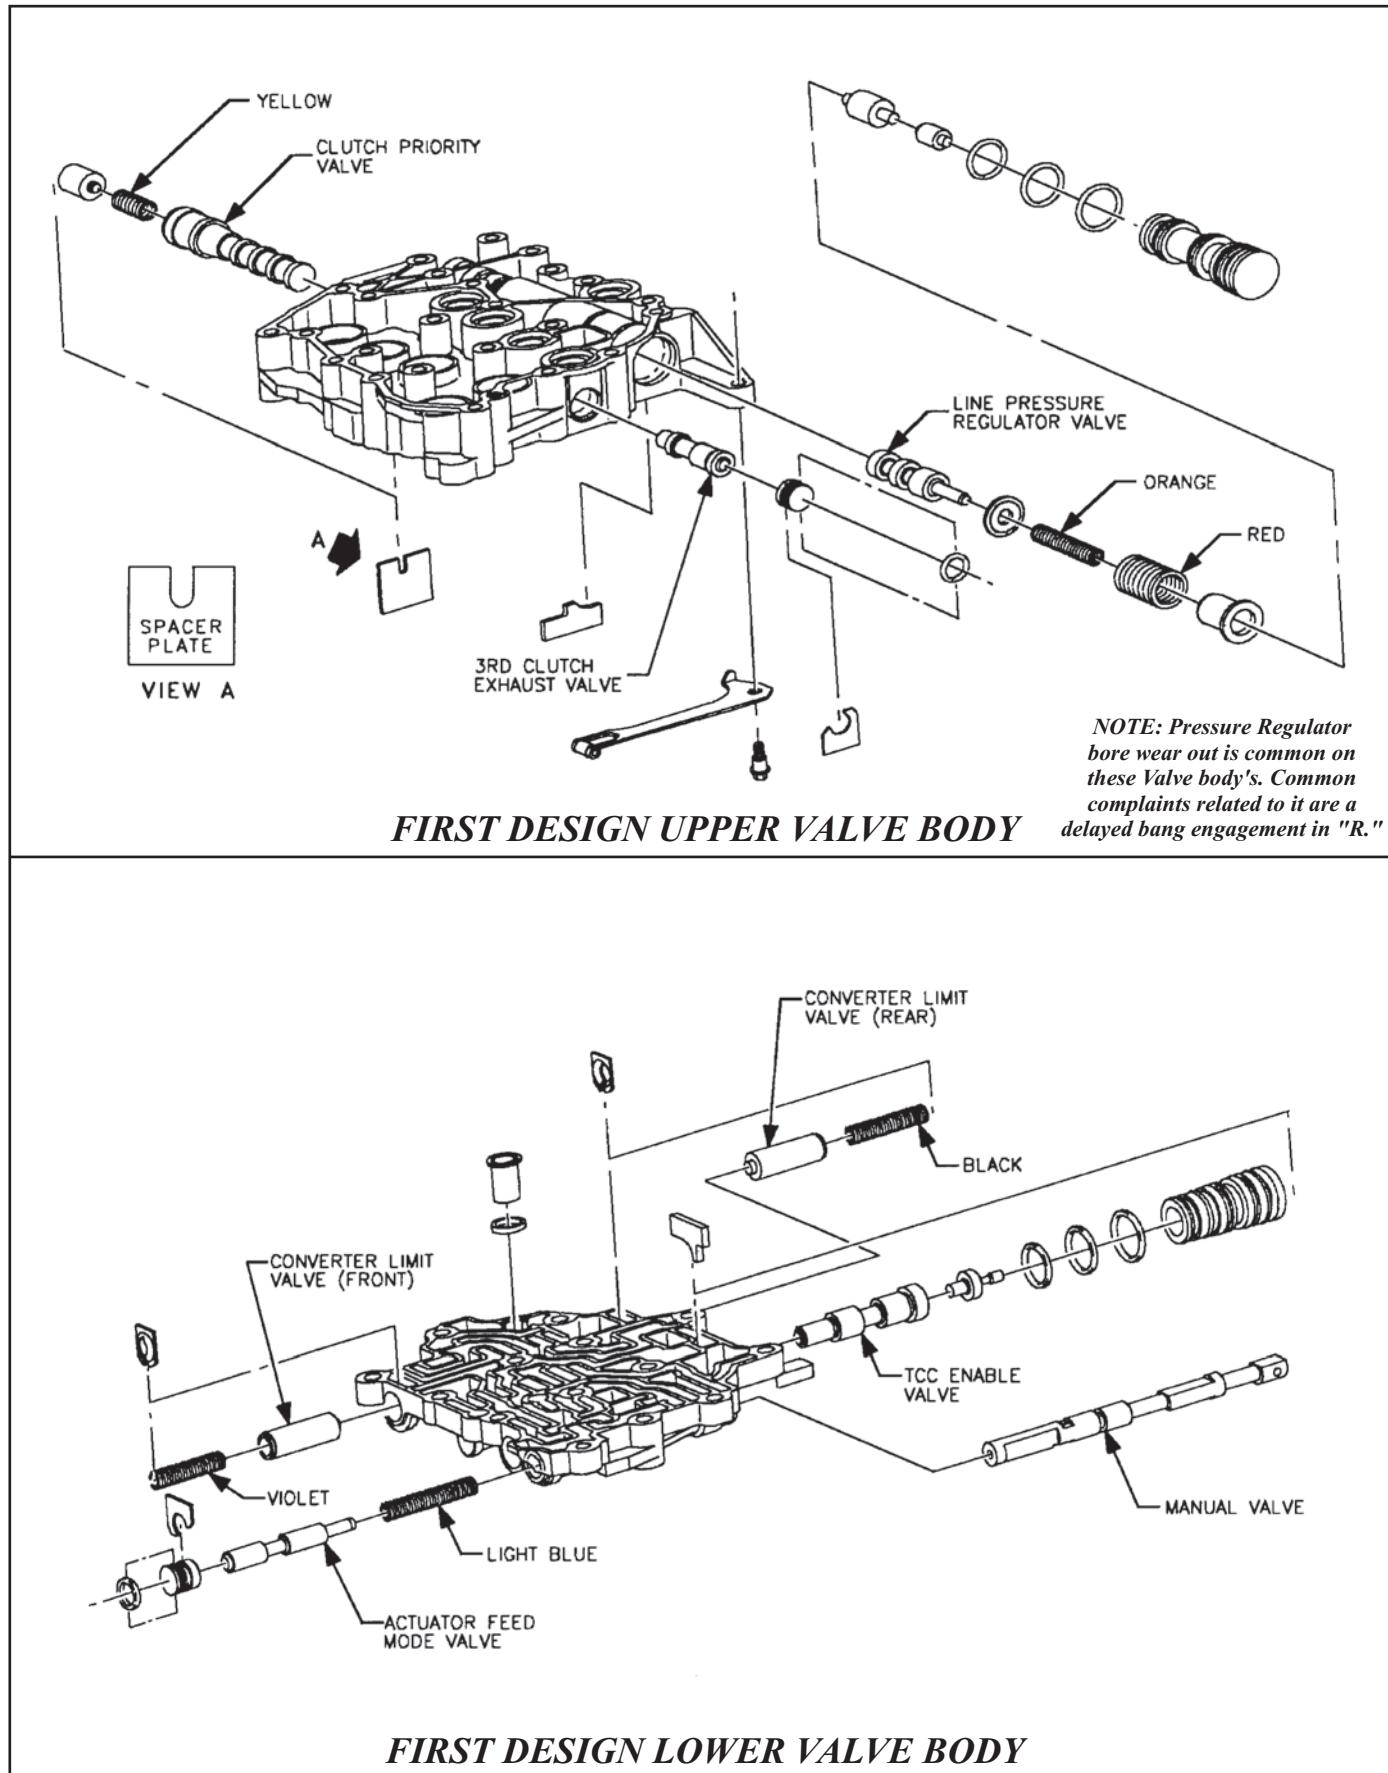

Figure 175
10. Use the illustrations in Figures 175 and 176 to reassemble the valves, springs and bushings in their proper order.